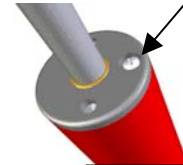

Figure 3
5. **▲ WARNING** Make certain that gas pressure is relieved before completing this step. Failure to do so could cause serious injury or death! Remove the hyper-screw from the bottom of the closure nut. Unscrew the closure nut and carefully wiggle the rod while using an upward force to remove the piston rod assembly. See Figure 3.